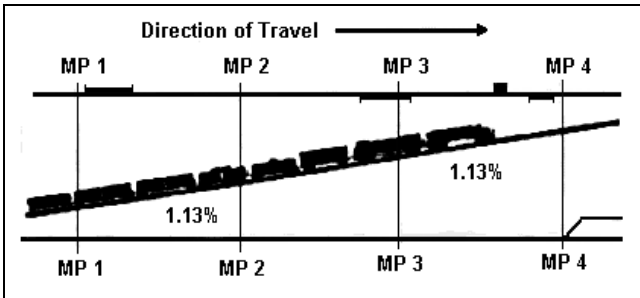

**Figure 5-8. Direction of Train Travel in a Modified Slack Bunched Method (Below 15 MPH)**
c. **Modified Slack Bunched Method – Below 15 MPH (Preferred Method for Level, Light, Heavy, and Mountain Descending Grades) (see Figure 5-8).**